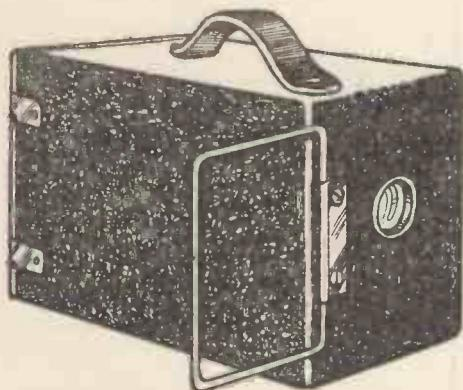
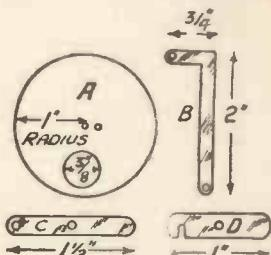
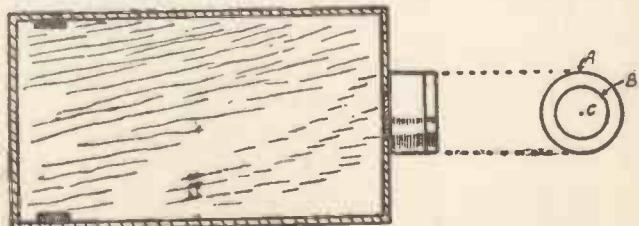

Fig. 6.—The finished Snapshot Camera.
Fig. 5.—The various Fittings.
Fig. 7.—A sectional view of the Camera. A is the rim of a pill-box; B, tin-foil lens; and C, small pin-hole.
Two small brass catches D (Fig. 5) engage with two nails in the edge of the camera back. The view-finder is a wire rectangle  $3\frac{1}{2}$  in. by  $2\frac{1}{2}$  in. Bend a piece of brass around it and attach it to the camera by two small screws (see Fig. 1). A leather handle cut from a strap and secured to the top by two screws completes the camera (see Fig. 6).
**Pinhole Cameras** (Fig. 6 shows the completed camera).—An even simpler camera than the one described is that known as a Pinhole Camera. In its simplest form such a camera consists of a light-proof box with a very small pinhole at one end (see Fig. 7). A ready-made box for your pinhole camera consists of a cigar-box. In one of the end pieces bore a hole about  $\frac{1}{2}$  in. in diameter; on the inner side glue a small piece of tinfoil which will entirely cover the hole. With the finest needle obtainable pierce a hole in the exact centre of the tinfoil strip; this hole constitutes the lens. The next operation is the construction of the